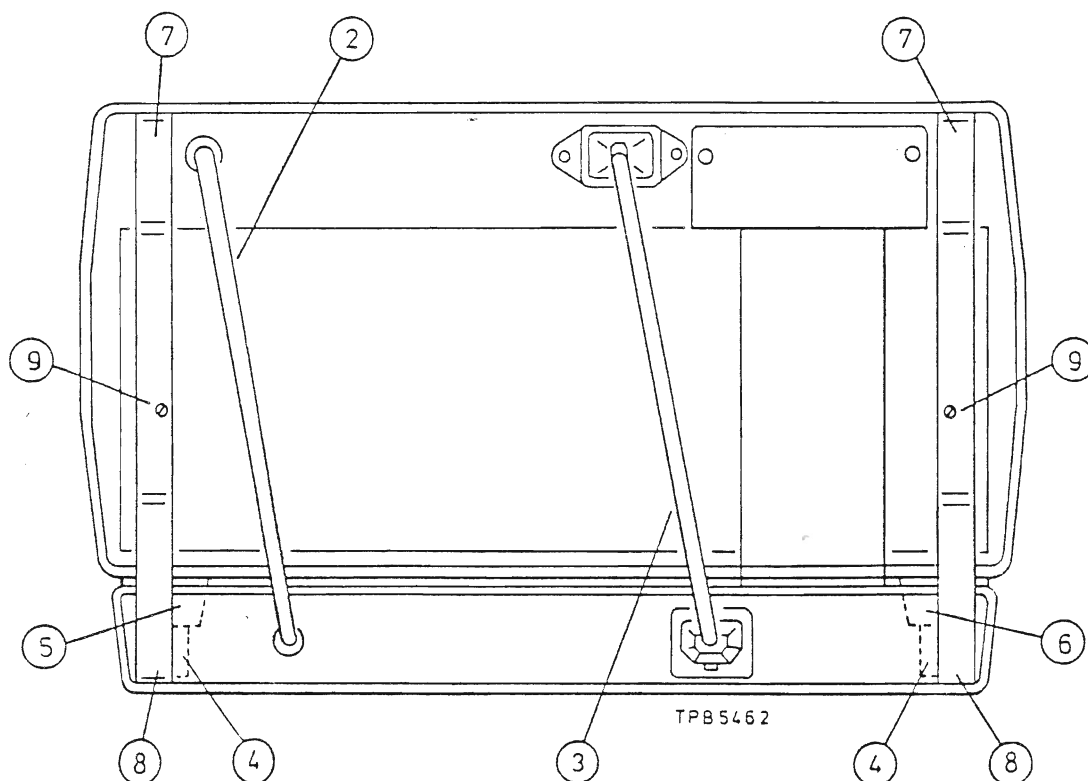

Fig. 2 Rear view showing electrical and mechanical connections
9. The 2958 will only operate correctly with the private (internal) GPIB cable connected between the Adapter and the 2955 GPIB socket. This connection is shown in the rear panel drawing, Fig 2 in Chap. 3.